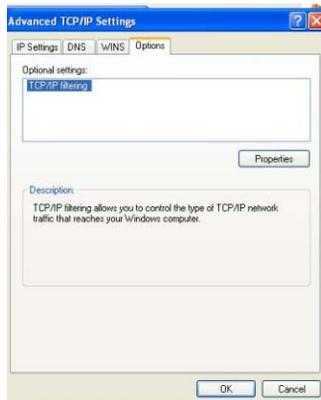

Figure 11 Options settings
- d Click the **Options** tab, then check that the settings match those in Figure 11.